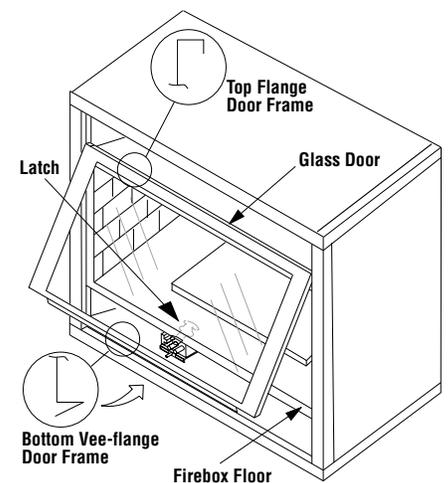

Figure 7
- 1 - Lower the bottom control compartment access panel. Remove the glass enclosure panel: open the latch (located in the center of the unit front opening, under the firebox floor) securing the glass enclosure panel. Remove the panel by tilting it outward at the bottom and lifting it up. Set the door aside protecting it from inadvertent damage. See **Figure 7 on page 7**.
Refer to *Figure 7* and remove the front glass enclosure panel as follows: